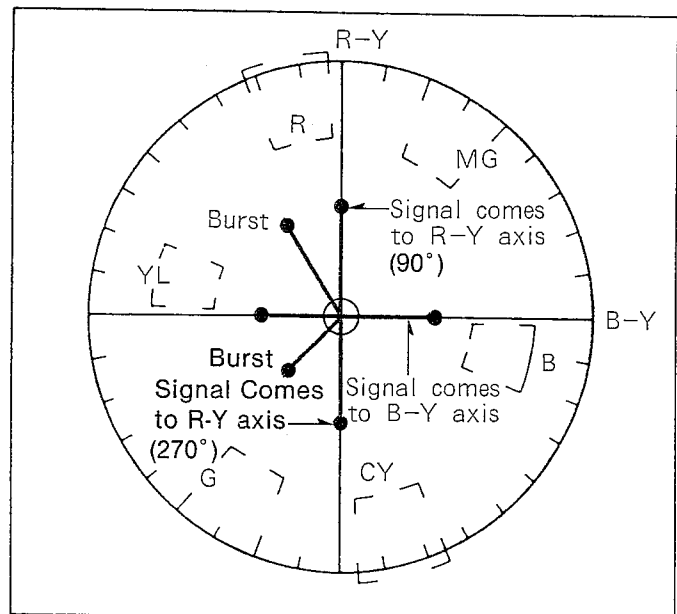

Fig. C13
- Push the "INC" key or "DEC" key so that signal comes to R-Y axis(270°) as shown in Fig.C13.
- Push the "INC" key or "DEC" key so that signal comes to R-Y axis(90°) as shown in Fig.C13.
- Push the "INC" key or "DEC" key so that signal comes to Burst phase in PAL mode of Vector Scope as shown in Fig.C13.